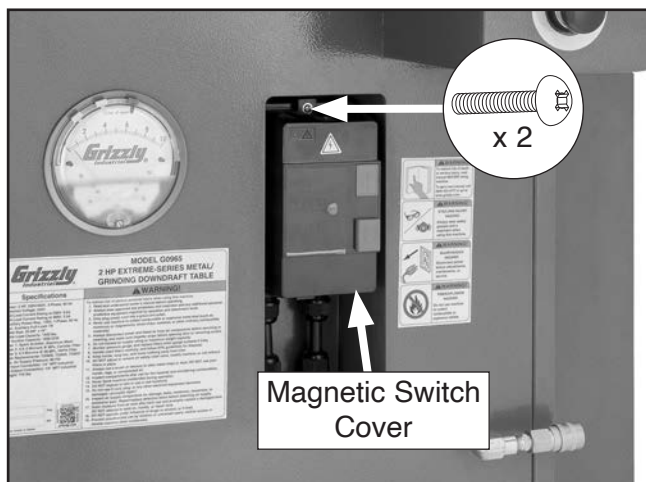

Figure 13. Magnetic switch cover and screws.
8. Fully loosen (2) screws shown in **Figure 13** to remove magnetic switch cover.